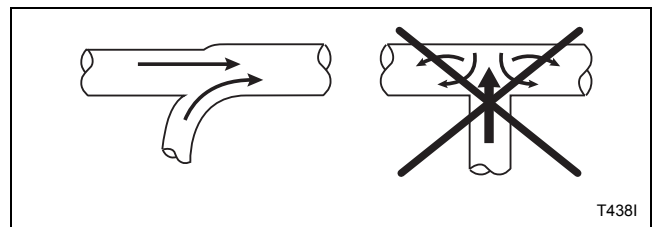

Figure 11
Manifold duct must be tapered, as shown in *Figure 11*. Individual tumble dryer ducts must enter manifold duct at a 45° angle in the direction of airflow.
**NOTE:** Never connect a tumble dryer duct at a 90° angle to the collector duct. Refer to *Figure 11*. Doing so will cause excessive back pressure, resulting in poor performance. Never connect two tumble dryer exhaust ducts directly across from each other at the point of entry to the collector duct.